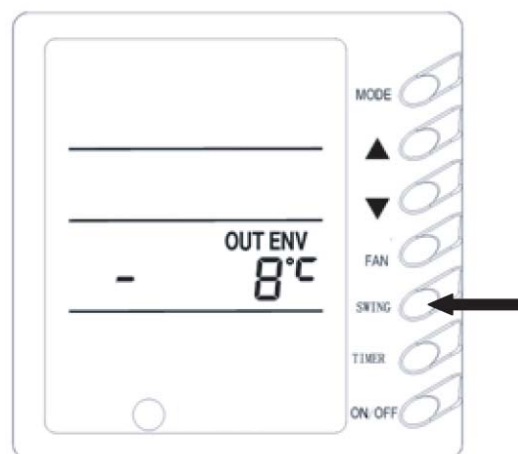

Fig 8
7) Outer ambient temperature display (Fig. 8)